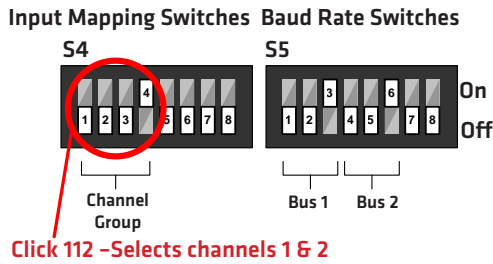

Figure 3.4 – Click 112 DIP Switches for Channels 1 and 2
- 1 Make sure the DIP switches are set according to Figure 3.3 for a Click 114 and Figures 3.4 and 3.5 for Click 112 cards.